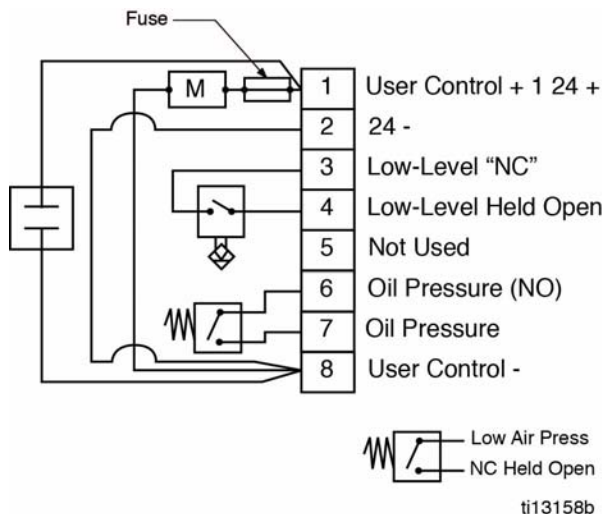

FIG. 1
4. Referring to the wiring diagram for your model (115 and 230 VAC or 24 VDC) in FIG. 1, connect Pump